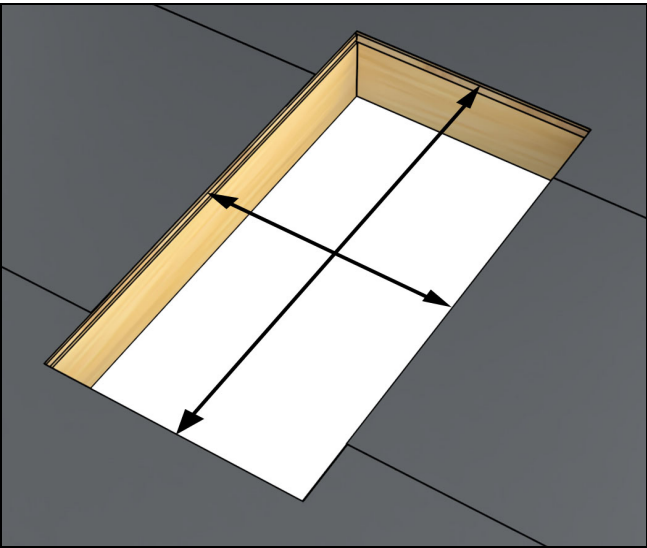

Figure 4
2. Cut rough opening according to the measurements in the chart below with Figure 4.